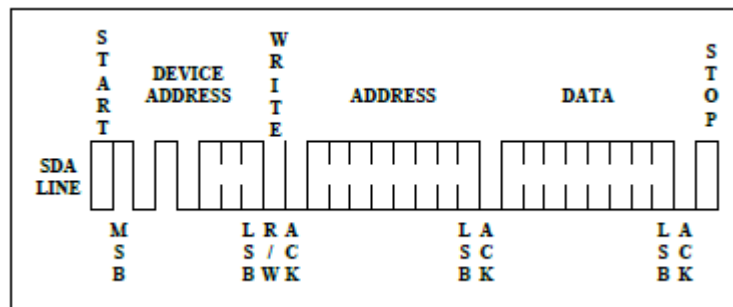

Figure4 Byte Write
**BYTE WRITE:** A write operation requires one 8-bit data word address following the device address word and acknowledgment. Upon receipt of this address, the BM24C02B will again respond with a “0” and then clock in the first 8-bit data word. Following receipt of the 8-bit data word, the BM24C02B will output a “0” and the addressing device, such as a microcontroller, must terminate the write sequence with a stop condition. At this time the EEPROM enters an internally timed write cycle, to the nonvolatile memory. All inputs are disabled during this write cycle and the EEPROM will not respond until the write is complete (see Figure 4).